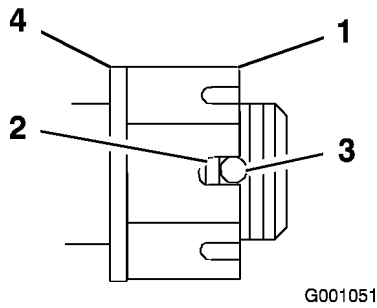

Figure 50
4. Torque the slotted nut to 125 ft-lb (170 N·m) (Figure 50).
- Check the distance from bottom of slot in nut to inside edge of hole. Two threads or less should be showing (Figure 50).
- Torque the slotted nut to 125 ft-lb (170 N·m) (Figure 50).
- Tighten the nut until the next set of slots line up with the hole in the shaft (Figure 50).